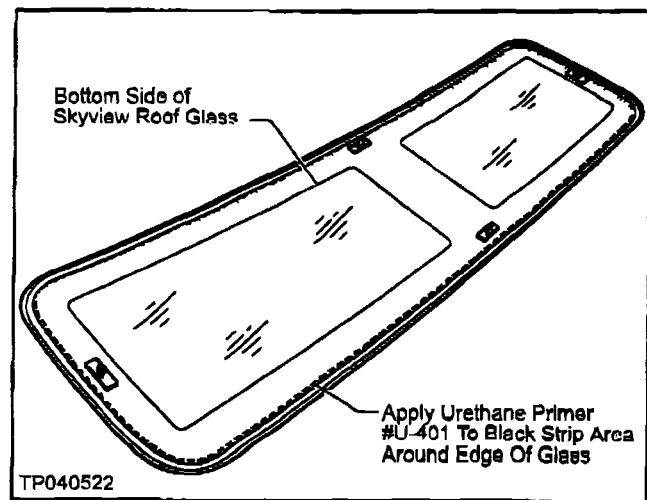

Figure 8
11. Apply Urethane Primer to the new Skyview Roof Glass (see Figure 8).
- Apply Primer to the black strip area around the edge of the glass (see Figure 8).